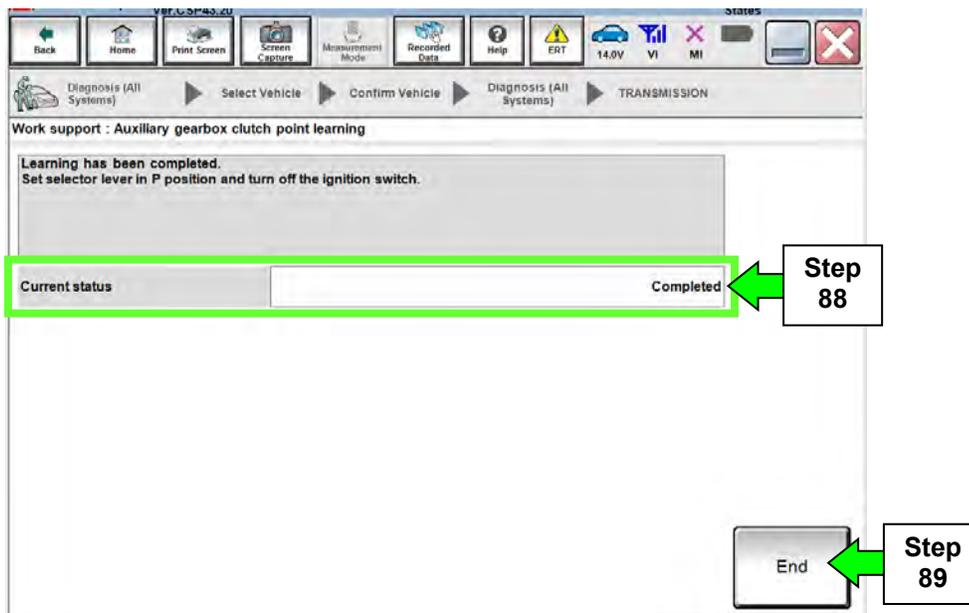

Figure 54
88. Continue to depress the brake pedal until the Current status shows “Completed” as shown in Figure 54.